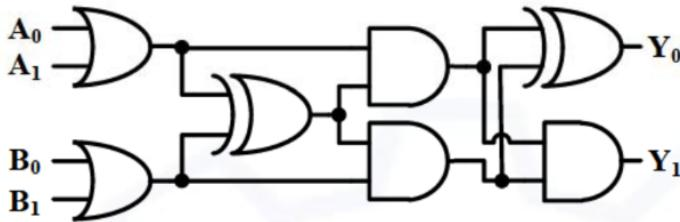

Fig. 4.25
46. In the circuit shown below in Fig. 4.25,  $Y$  is a 2-bit ( $Y_1 Y_0$ ) output of the combinational logic. What is the maximum value of  $Y$  for any given digital inputs,  $A_1 A_0$  and  $B_1 B_0$  ?